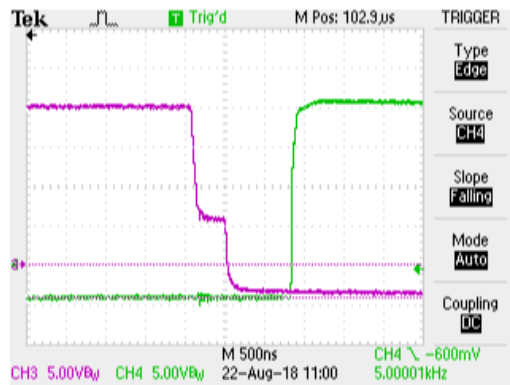

Figure 13: Normal Operation Turn-Off Example 5V, 200ns
- a. Figure 13 below shows an unloaded LO side Two Level Turn-Off waveform (purple) and the HI side Gate turning on after a specified dead time (green). Both were measured from the LO and HI Vgs.
2. If it looks like Figure 13 from Normal Operation, it did not detect a short circuit. Increase DC Link voltage in 25V increments until DSAT is detected.